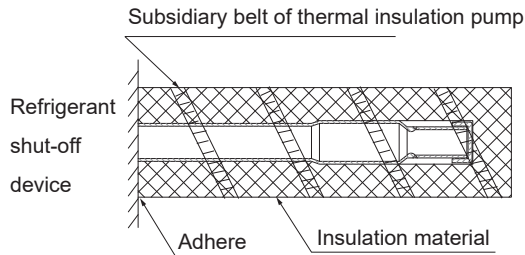

Fig.6-6
4. Insulation tube installation instructions for unused branch ports (indoor unit side) (gas and liquid pipes) (See Fig.6-6).